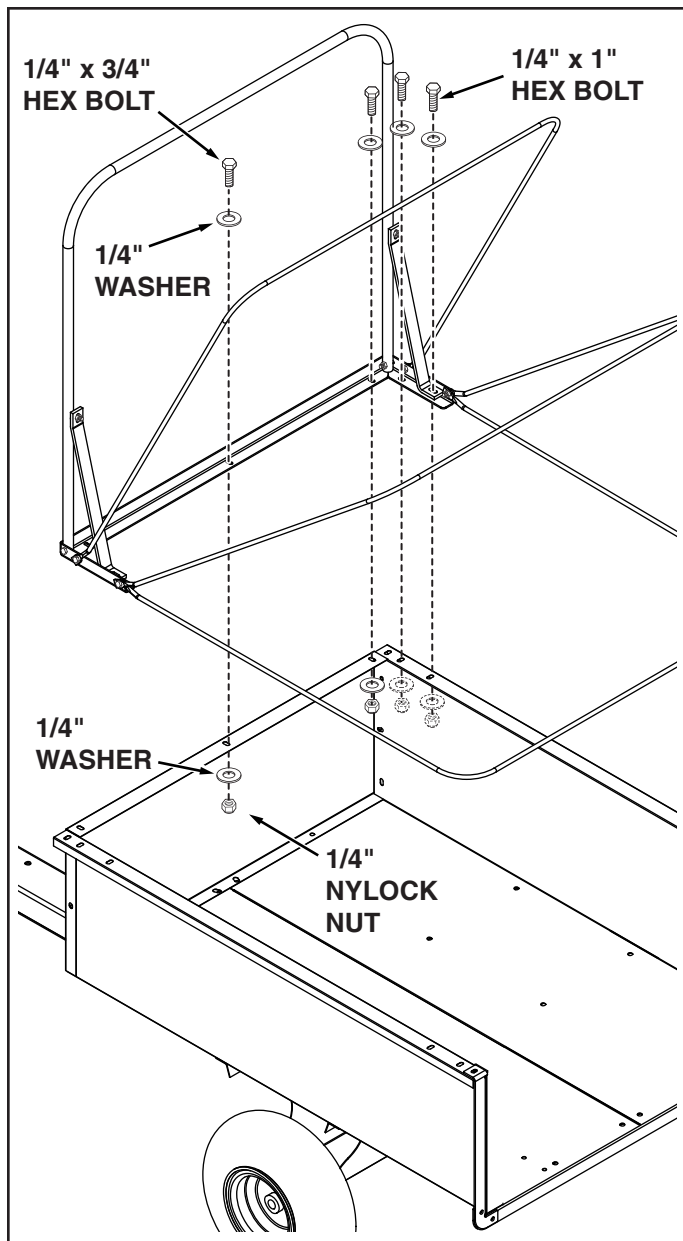

FIGURE 12
- Place the top angle support and cart bag on top of the cart as shown in figure 12. Then, using a screwdriver or other sharp object, poke holes through the cart bag for the bolts that will be assembled in step 3.
- Attach the top angle support and braces to the cart using five 1/4" x 3/4" hex bolts, two 1/4" x 1" hex bolts through the braces, fourteen 1/4" washers (one placed on each side) and seven 1/4" nylock nuts. **DO NOT TIGHTEN YET.** See figure 12.